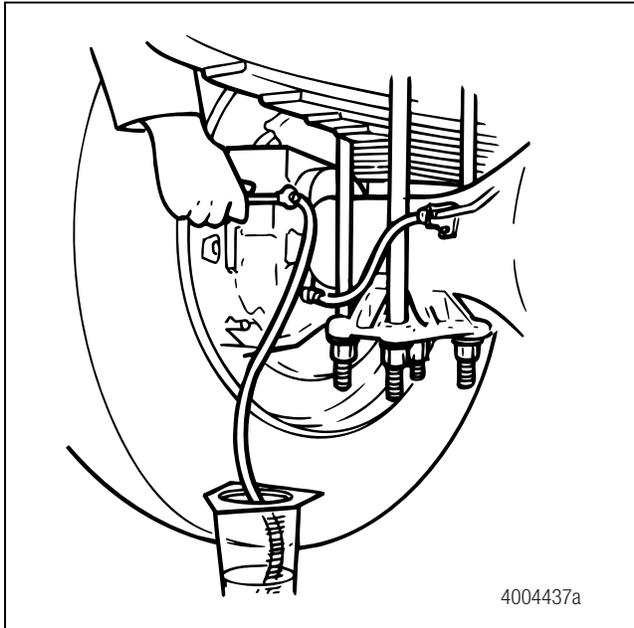

Figure 4.36
- C. Use a wrench to open the bleeder fitting screw. Figure 4.36.